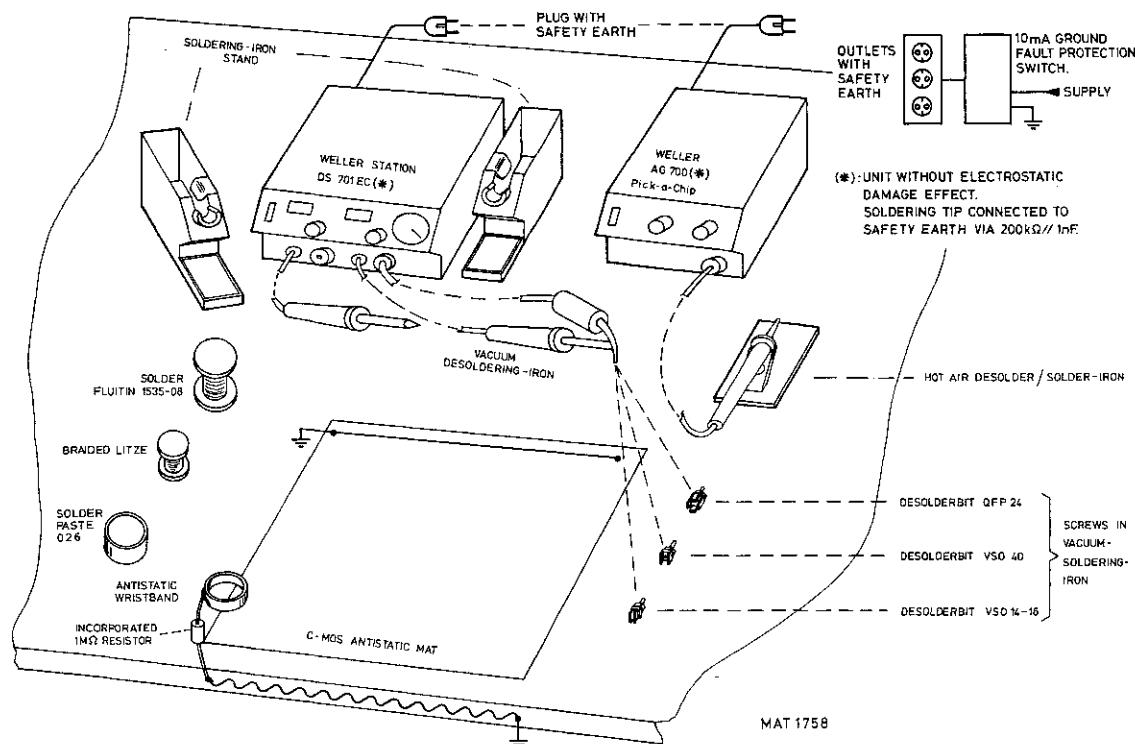

Fig. 26.7. Arrangement of working area for S.M.D. exchange.
- how to arrange the S.M.D.-workshop. (see fig.26.7.)
- Protection against E.S.D.: since the working area must be suitable for repair of MOS-devices, some precautions must be taken (see fig.26.7),
- For an optimal supply of heat a working area must be used that does not lead away the heat: the antistatic mat in fig.26.7. meets this requirement.